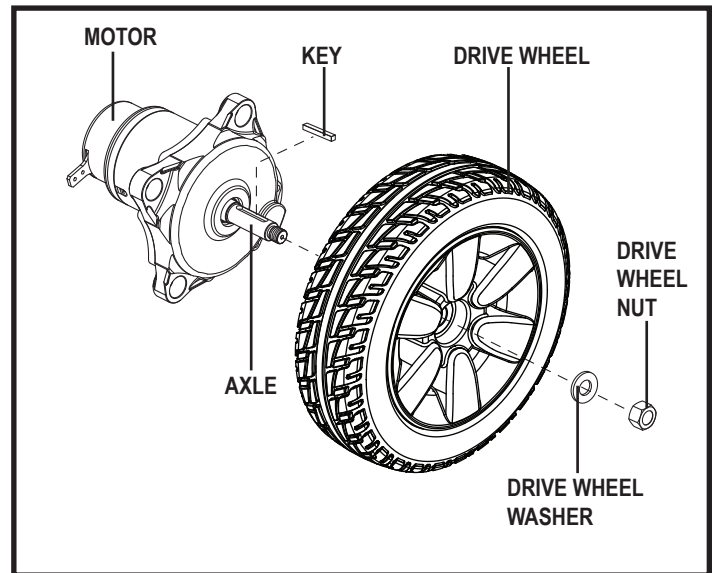

Figure 15. Jazzy Select 6 Drive Wheel Removal
5. Remove the hub cap, if equipped. See figure 15.
6. Remove the drive wheel nut and washer from the axle. See figure 15.
12. Reinstall the drive wheel nut and washer onto the axle and tighten. See figure 15.